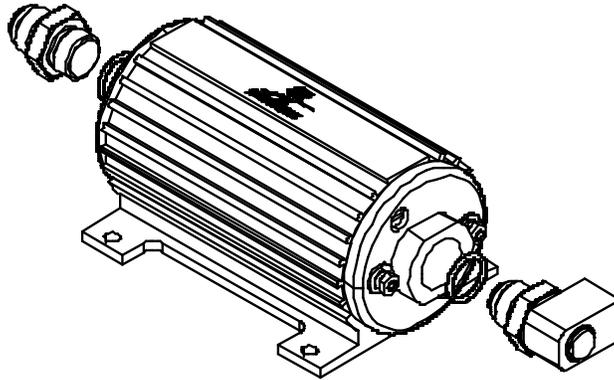

Figure 5
- 2-3. Install one of the supplied o-rings on the cutoff side of the AN-10 cutoff union fitting, if not already installed, and install on the inlet side of the pump as shown in figure 5.
- 2-4. Install one of the supplied o-rings on the AN-10 side of the 90-degree adapter fitting, if not already installed, and install the adapter on the outlet side of the pump as shown in figure 5.